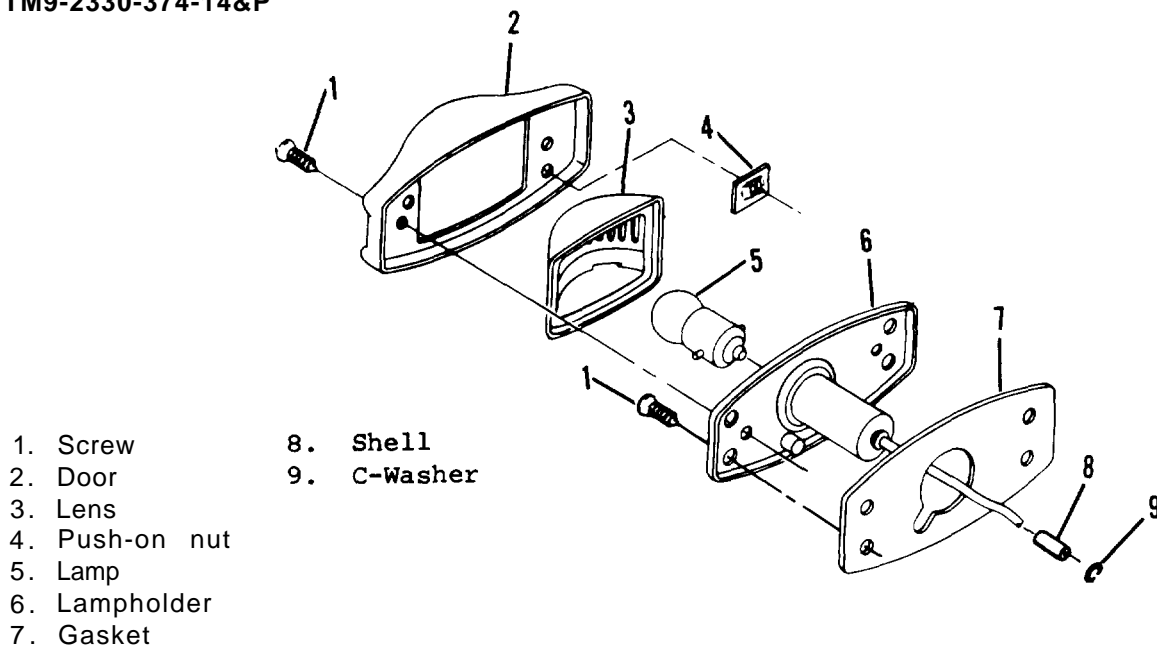

Figure 4-8. Clearance light
- (1) Remove two screws (1, figure 4-8) securing door (2).
- (2) Lens (3) is clipped to door (2) by push-on nuts (4). Pry off nuts to remove lens from door.
- (3) Remove lamp (5) from lampholder (6).
- (4) Pry out gasket (7) from lampholder (6).
- (5) Remove C-washer (9) and shell (8) from end of cable.
(1) Install shell (8) and C-washer (9) on end of cable.
(2) Install gasket (7, figure 4-8) in lampholder (6).
(3) Install lamp (5) in lampholder (6).
(4) Install lens (3) on door (2). Secure with push-on nuts (4).
(5) Secure door (2) with two screws (1).